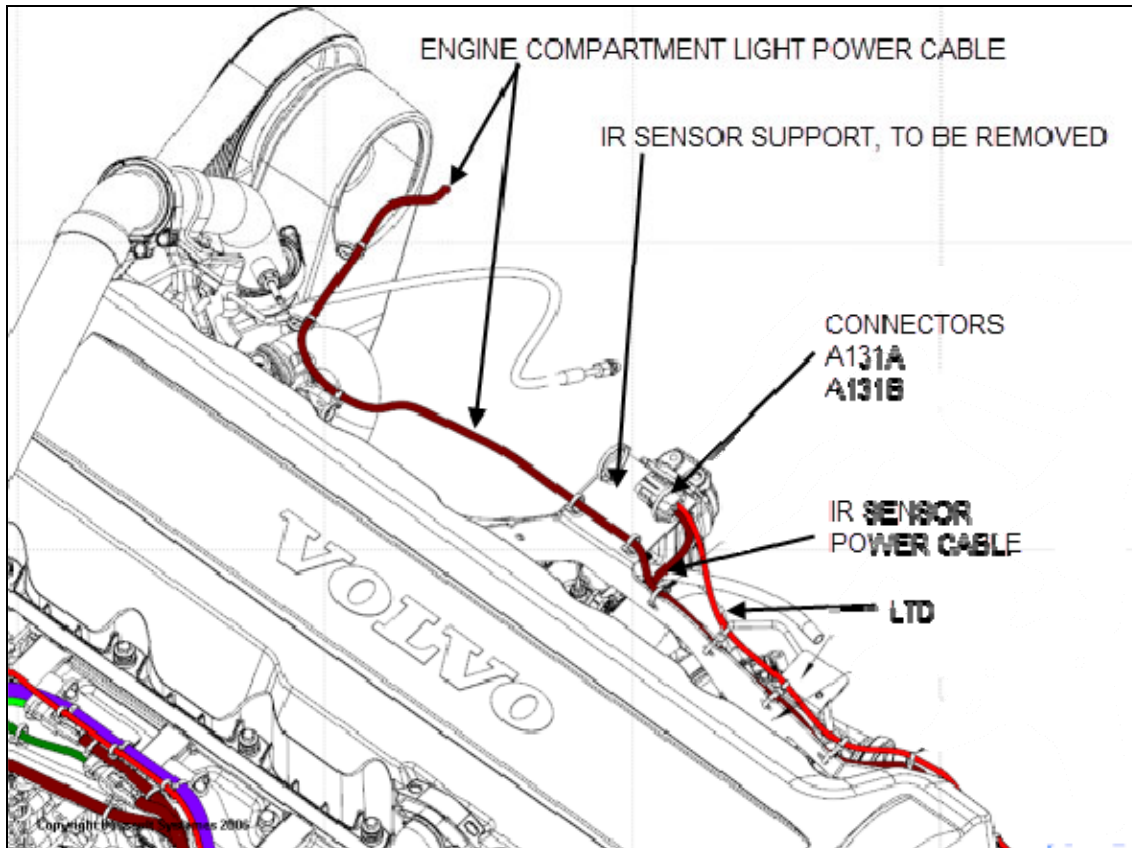

FIGURE 11: IDENTIFICATION OF COMPONENTS AND HARNESSES
- 1) Locate the IR sensor and support above the turbo (FIGURE 11).